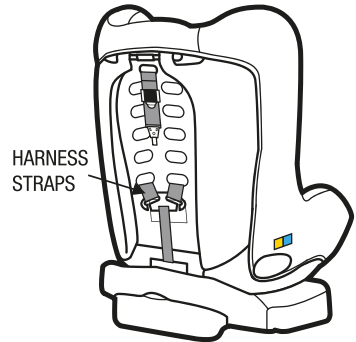

Figure 1
Step 2: Remove each shoulder harness through the gates in the spreader plate (see Figure 1 & 4).